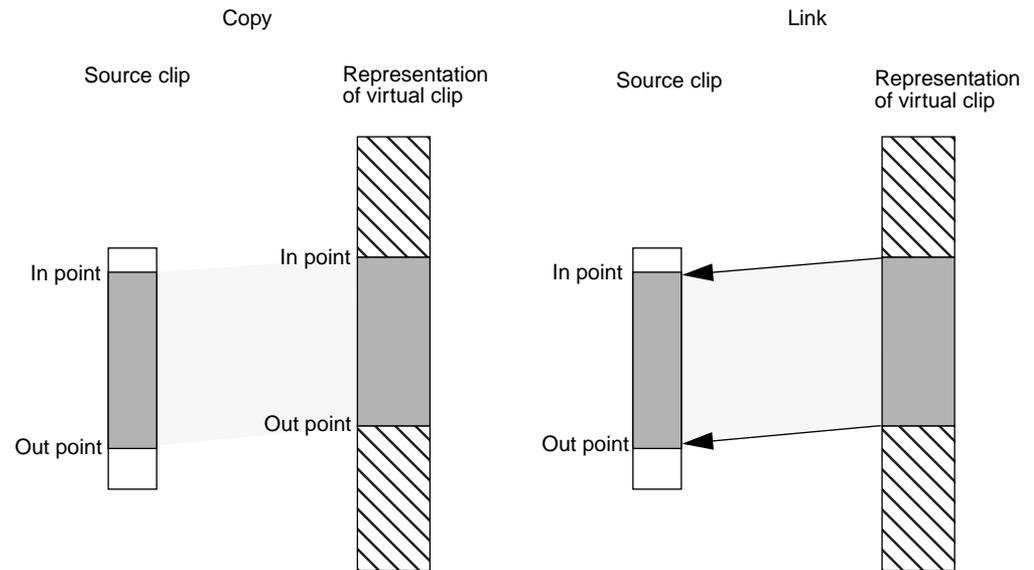

Figure 8-3 Copying vs. Linking; Where Segment Data is Stored
- FCP—copy the segment data (the in and out points, for example) from the source clip to the target vclip, as shown in Figure 8-3.
- FLN—link the segment data in the source clip to the vclip, as shown in Figure 8-3.